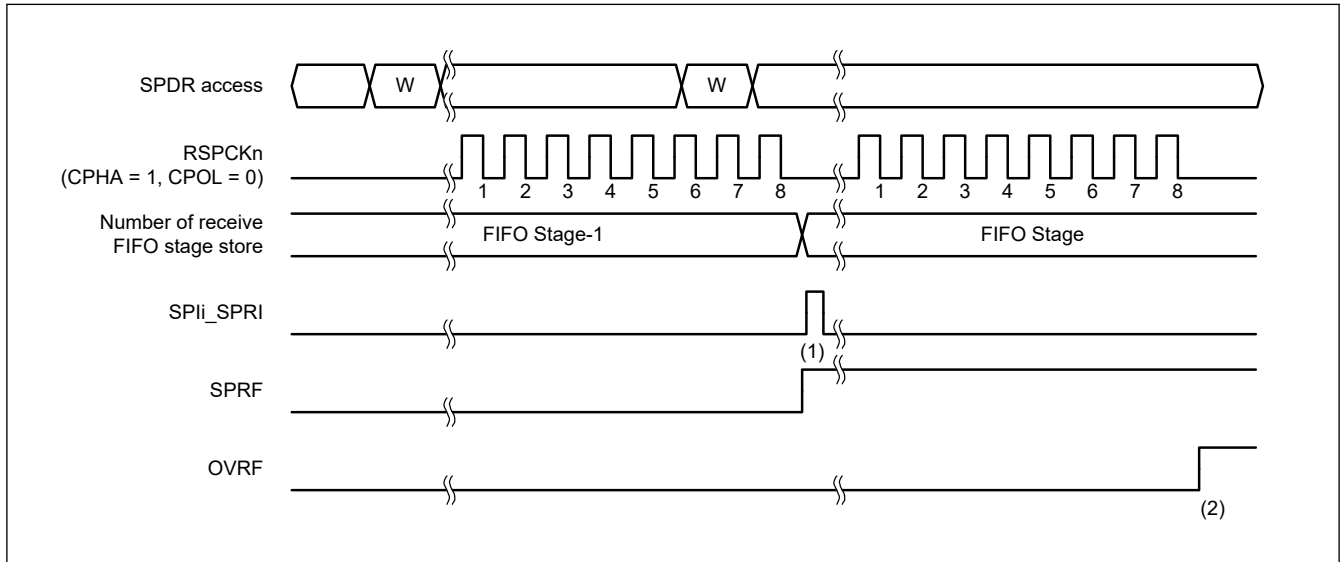
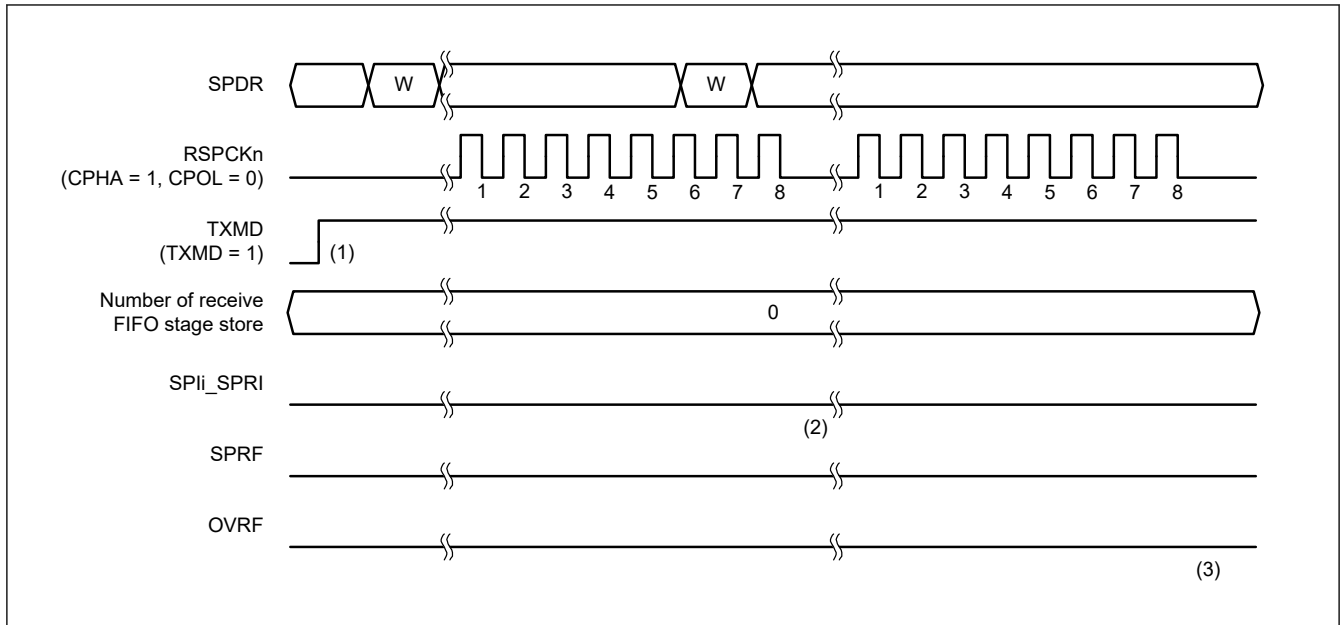
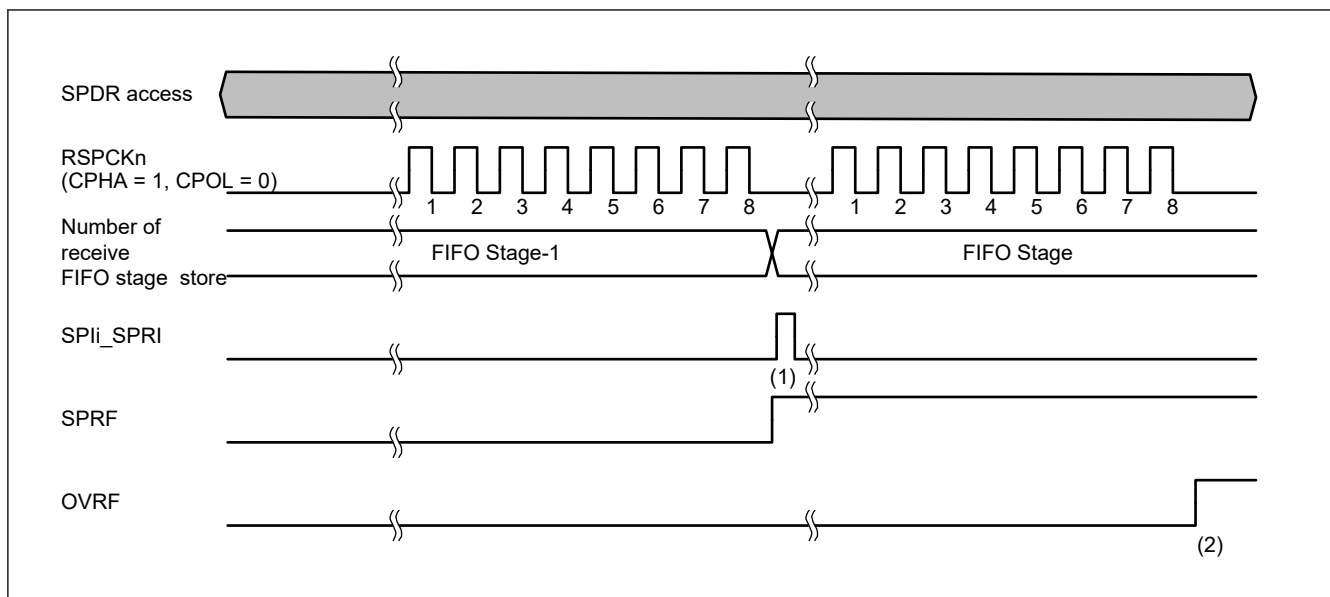

Figure 43.30 Operation example when SPCR.TXMD[1:0] = 00b
Figure 43.31 Operation example when SPCR.TXMD[1:0] = 01b
Figure 43.32 Example of Operation when SPCR.TXMD[1:0] = 10b
SPDR access described in Figure 43.30, Figure 43.31, Figure 43.32 shows an access to the SPI data register (SPDR). W shows a write cycle.
Figure 43.30 shows an example of operation when the communication mode select bit (TXMD[1:0]) in the SPI control register (SPCR) is set to 00b. In the example, the SPI performs an 8-bit serial transfer when the SPDCR2.TTRG is 0, the SPDCR2.RTRG is FIFO stage - 1, the SPCMDm.CPHA bit is 1, and the SPCMDm.CPOL bit is 0. The numbers given for RSPCKn in the waveform represent the number of RSPCK cycles, such as the number of transferred bits.
The operation of the flags at timings (1) and (2) in Figure 43.30 is as follows:
Figure 43.31 shows an example of operation when the communication mode select bit (TXMD[1:0]) in the SPI control register (SPCR) is set to 01b. In this example, the SPI performs an 8-bit serial transfer when the SPDCR2.TTRG is 0, the SPDCR2.RTRG is 0, the SPCMDm.CPHA bit is 1, and the SPCMDm.CPOL bit is 0. The numbers given for RSPCKn in the waveform represent the number of RSPCK cycles, such as the number of transferred bits.
The operation of the flags at timings (1) to (3) in Figure 43.31 is as follows:
Figure 43.32 shows an example of operation when the communication mode select bit (TXMD[1]) in the SPI control register (SPCR) is set to 1. In this example, the SPI performs an 8-bit serial transfer when the SPDCR2.TTRG is FIFO stage - 1, the SPDCR2.RTRG is 0, the SPCMDm.CPHA bit is 1, and the SPCMDm.CPOL bit is 0. The numbers given for RSPCKn in the waveform represent the number of RSPCK cycles, such as the number of transferred bits.